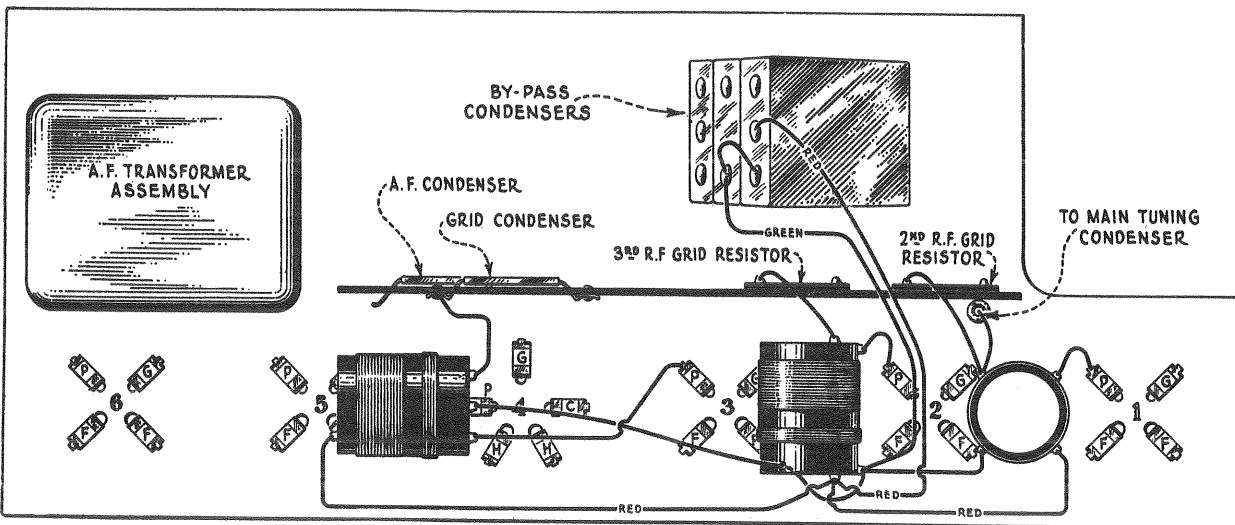

Figure 20—R. F. transformer connections and color scheme of wiring.
5. Replace and resolder all leads to the three transformers and two pin jacks as indicated by the tags previously attached to them. The connections to the transformer are shown in Figure 20 and those to the pin jacks in Figure 15. These figures should be referred to when making these connections. After finishing the connections, they should be carefully checked before reassembling the Radiola.